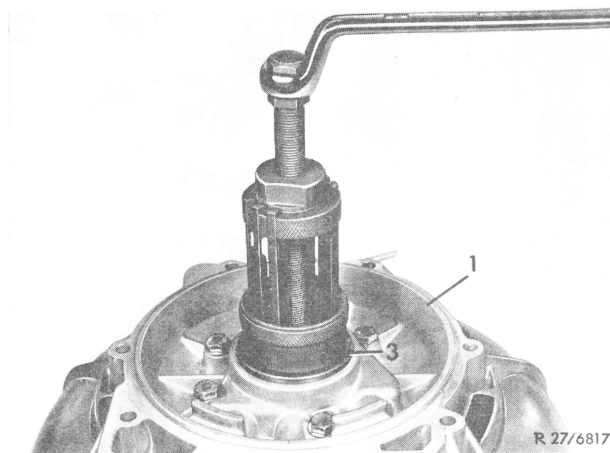

Fig. 1
1 Pull ball bearing (3) from front transmission cover (1) with pulling fixture 116 589 07 33 00 (Fig. 1).